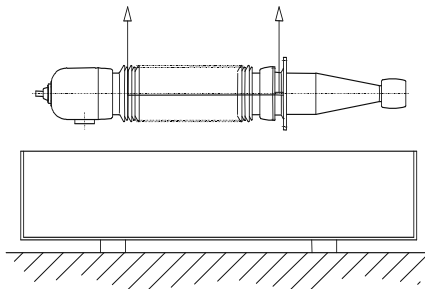

Fig. 7b
- Lift with the two tackles and hold the bushing in horizontal position (fig. 7b).